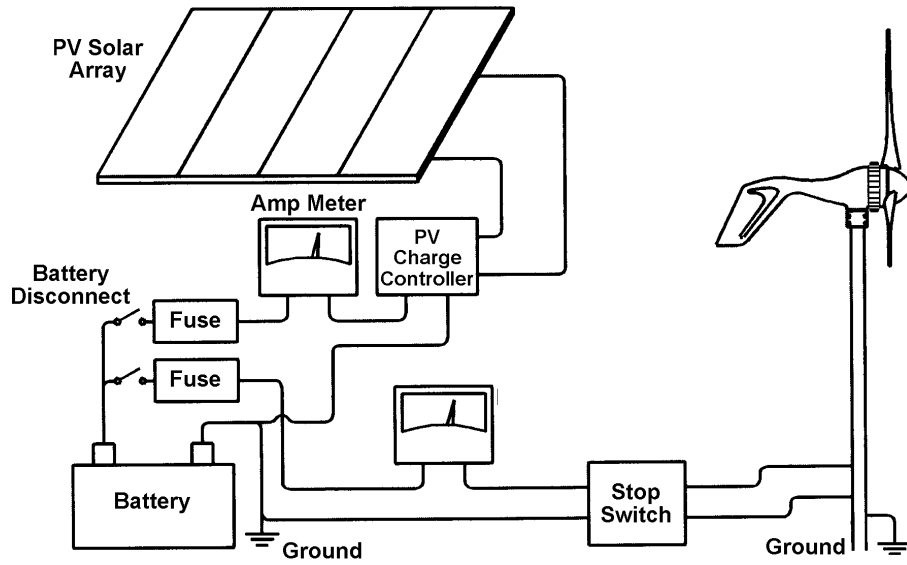

Figure 4
11) Run all wires from the turbine to the battery (do not connect wires to the battery). Be sure to crimp and solder the connections using the appropriate sized connectors. If you plan to connect an amp meter into your system, see **Figure 4, on page 12**.